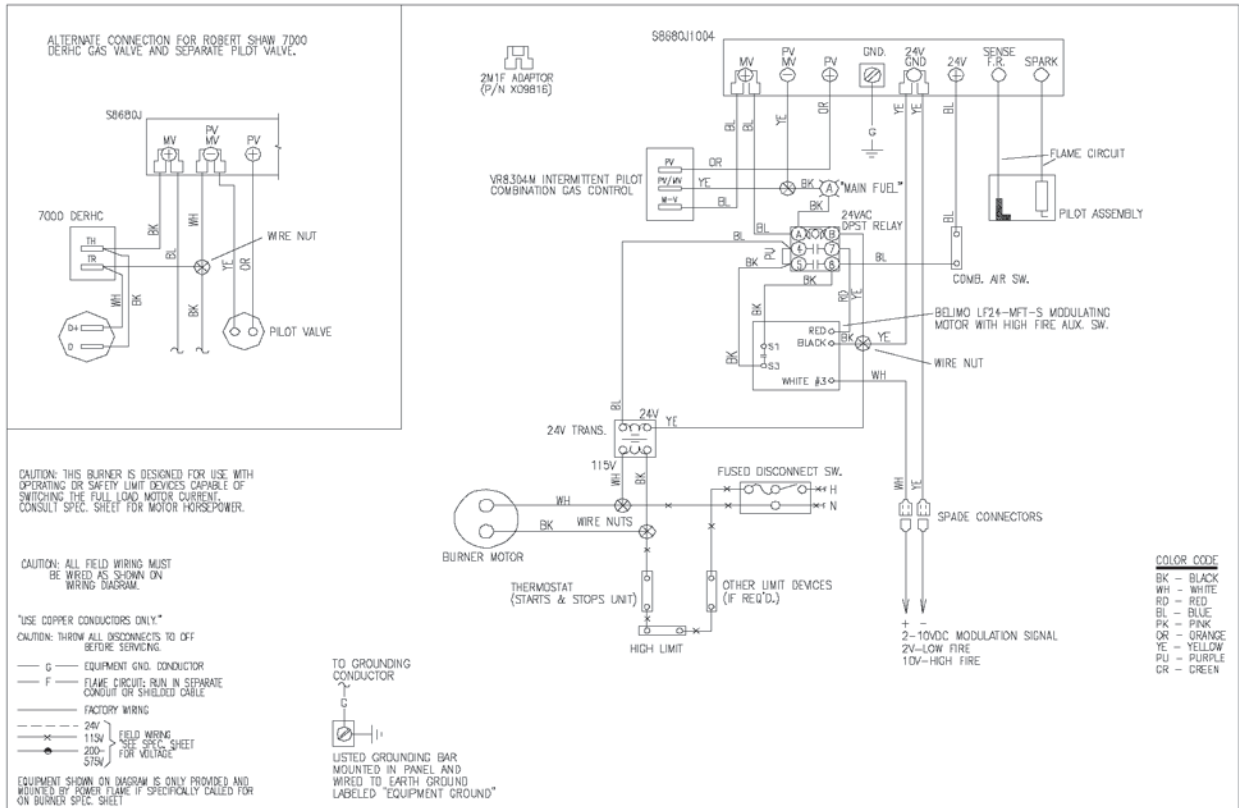

Figure 13: Typical Wiring Diagram For X4M with LF-24 Actuator
- 11.1 Refer to typical wiring diagram for X4M burner (**Figure 13**). Upon a call for heat, the blower motor starts, closing the combustion air switch. Power is supplied to the 24-vac transformer. Initially, power to the actuator is held out through one set of normally open contacts on the 24-vac relay.